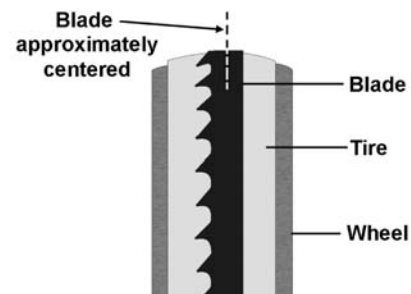

Figure 24
1. Open upper front door to expose the wheel. Rotate the wheel clockwise by hand and observe the position of the blade on the wheel through the window (E). The blade should ride upon the center of the wheel (Figure 24).
2. If the blade tends to move toward the edge of the wheel, loosen the *wing nut* (D) and slightly rotate the *knob* (C). Rotating the knob clockwise will cause the blade to move toward the rear edge of the wheel. Rotating the knob counterclockwise will cause the blade to move toward the front edge of the wheel.
3. When the blade is tracking properly in the center of the wheel, re-tighten the *wing nut* (D).